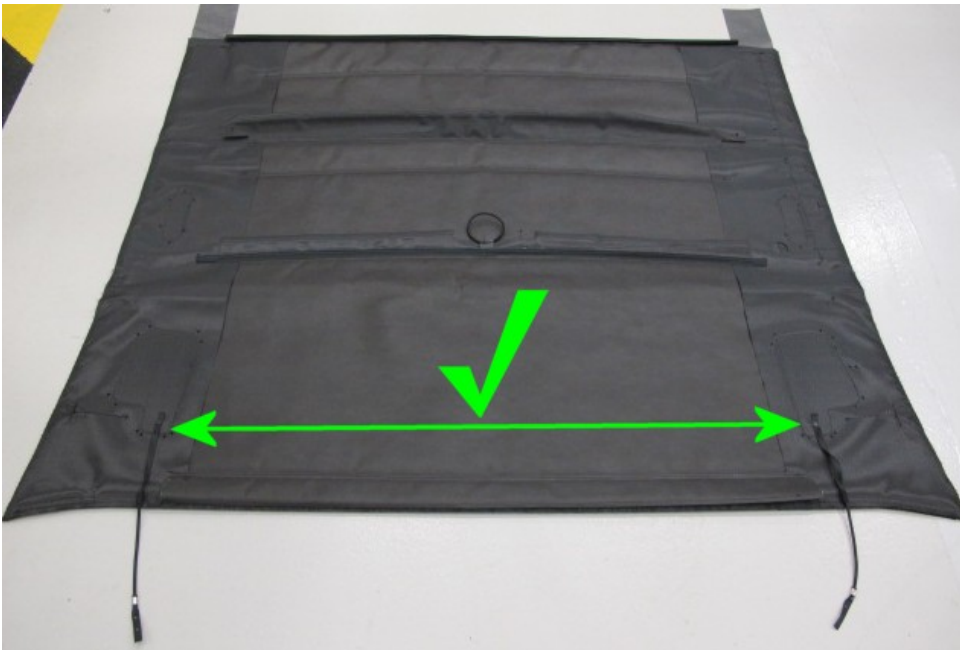

Figure 9
- 2) Repeat the previous steps on the opposite side of the insulation pad, once complete the insulation pad should be as shown in Figure 9